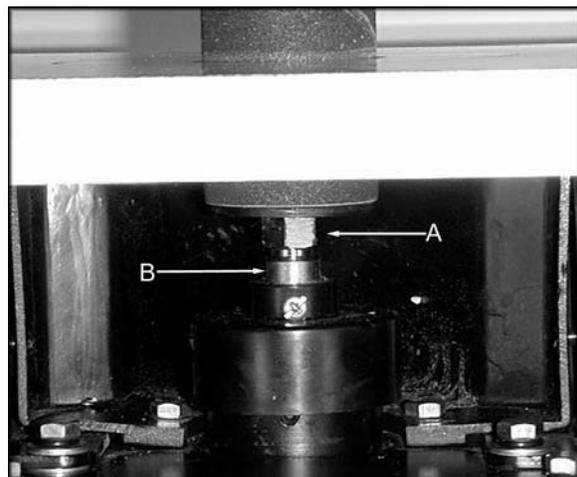

Figure 3
3. Using the provided wrenches, tighten the spindle nut (A, Figure 3) counterclockwise while holding the spindle housing flat (B, Figure 3) with the other wrench. NOTE: Do not over-tighten the spindle as it may be difficult to remove after the sanding operation.